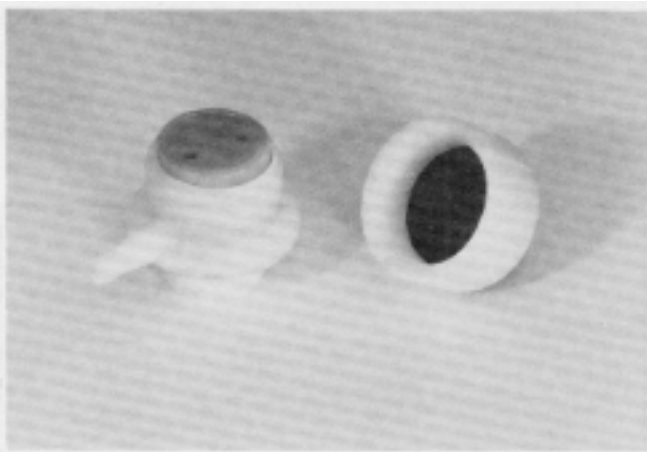

Figure 43
2. Unscrew the rubber cap/button from the pump. See Figure 43.